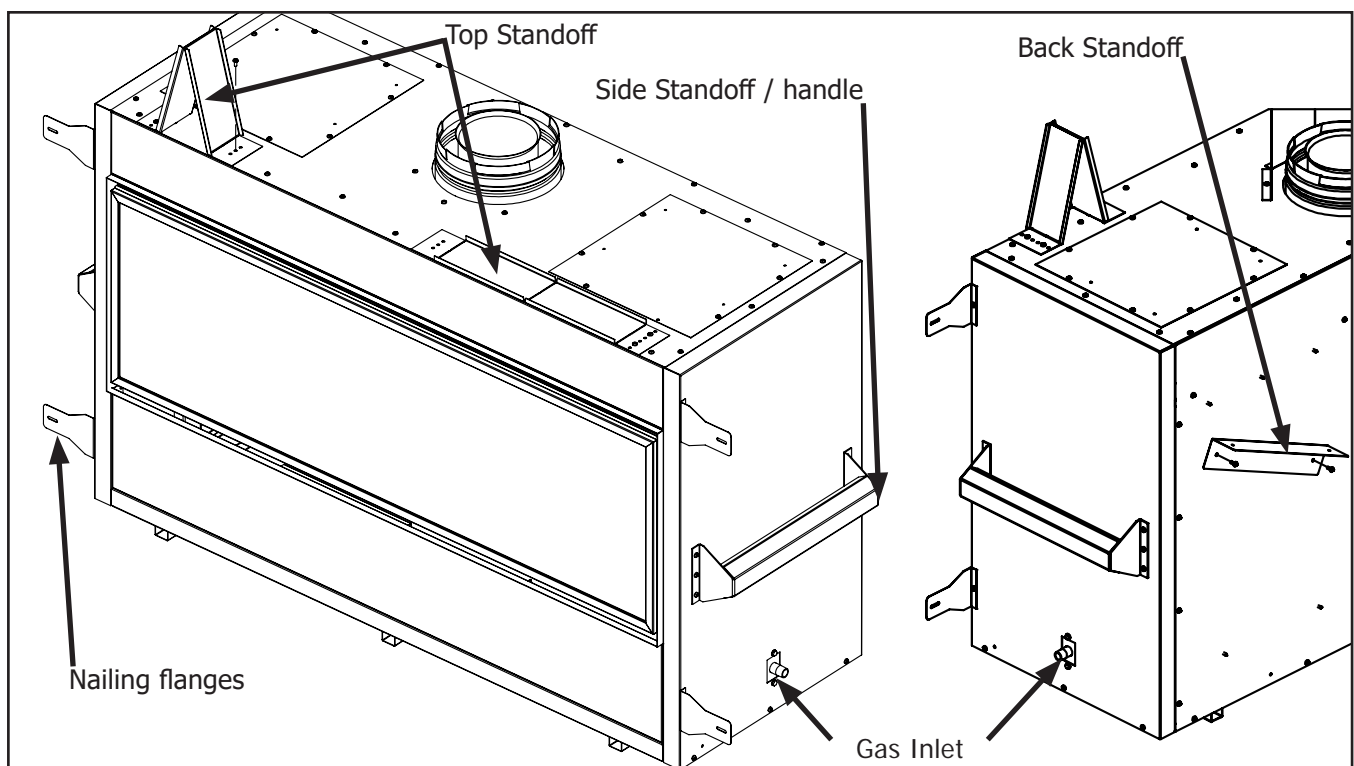

Figure 26: Fireplace Install Prep
Take a minute to familiarize yourself with Figure 26 below.
- The top framing standoffs will need to be folded up and secured on one side with a T-20 screw, This can be seen in Figure 26.